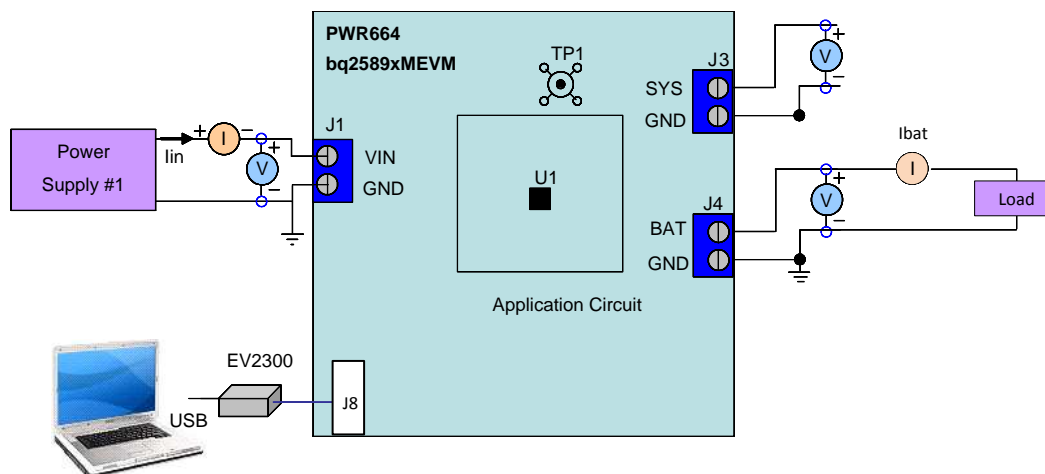

Figure 3. Original Test Setup for PWR664 (bq2589x EVM)
4. Turn on the Load, set to constant voltage mode and output to 2.5 V. Turn off (disable) Load. Connect Load in series with a current meter (multimeter), ground side, to J4 (BAT+ and GND) as shown in Figure 3.